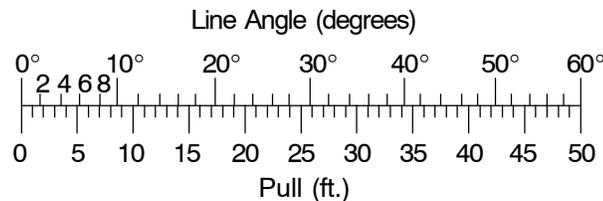

Figure 35
- Line angles may be measured or determined by measuring "pull." Figure 35 on Page 17 converts between "pull" and angles. Mathematically, pull ft. = 100 x sin $\varnothing/2$; $\varnothing=2 \times \text{arc sin}(\text{pull ft./100})$.
- Where storm guys are required, the conductor wind loading W should be used in the same manner as R is used in the example shown on Page 18. Calculate W from the wind load factors (P) given in Document 015203.